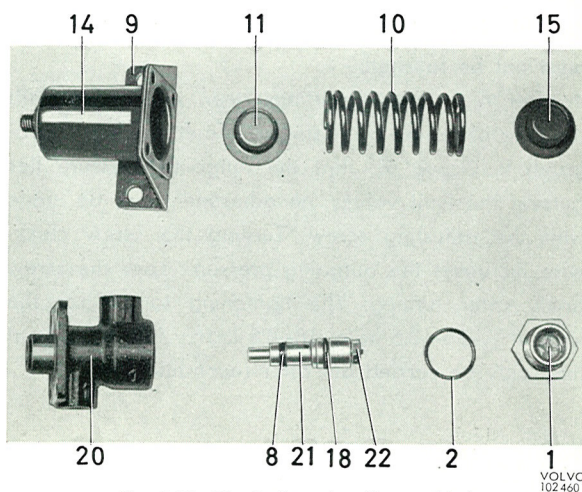

Fig. 5-57. The brake valve disassembled
2. Screw out the plug (1) and press out the complete plunger, see Fig. 5-57.